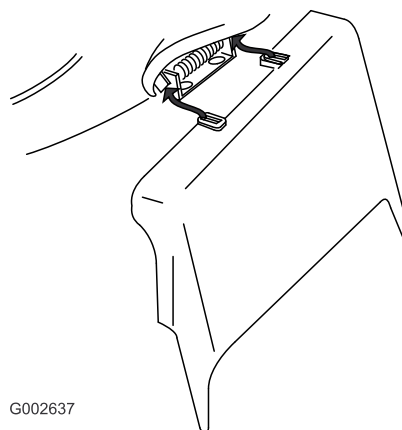

Figure 33
3. Install the side-discharge chute and close the door onto the chute (Figure 33).